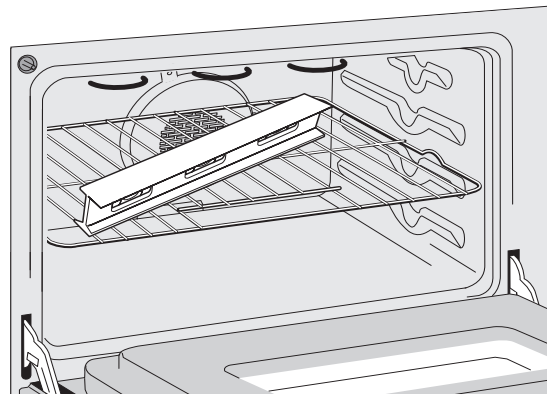
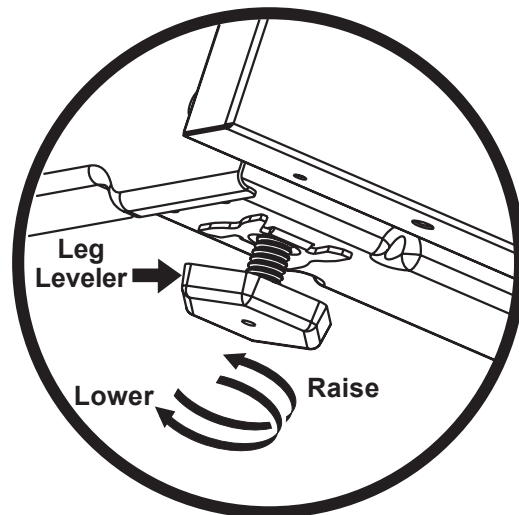

Figure 14
Figure 26
3. Check if the range is level by installing an oven rack in the center of the oven and placing a level on the rack (Figure 14).
2. Place a level on the rack (see Figure 14). Take 2 readings with the level placed diagonally in one direction and then the other. Level the range, if necessary, by adjusting the 4 leg levelers with a wrench (see Figure 26).